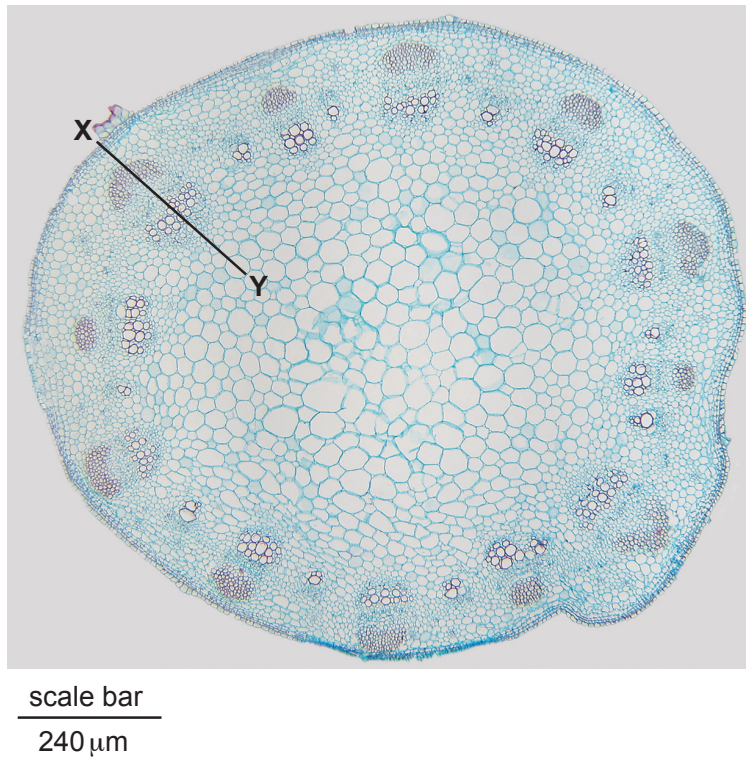

Fig. 2.2
(b) Fig. 2.2 is a photomicrograph of a stained transverse section of a different type of plant.
- (i) Use the scale bar and line X–Y on Fig. 2.2 to calculate the actual length of the vascular bundle.
(ii) Identify the organ shown in Fig. 2.2.
(iii) Identify the observable differences between the section on N1 and Fig. 2.2.